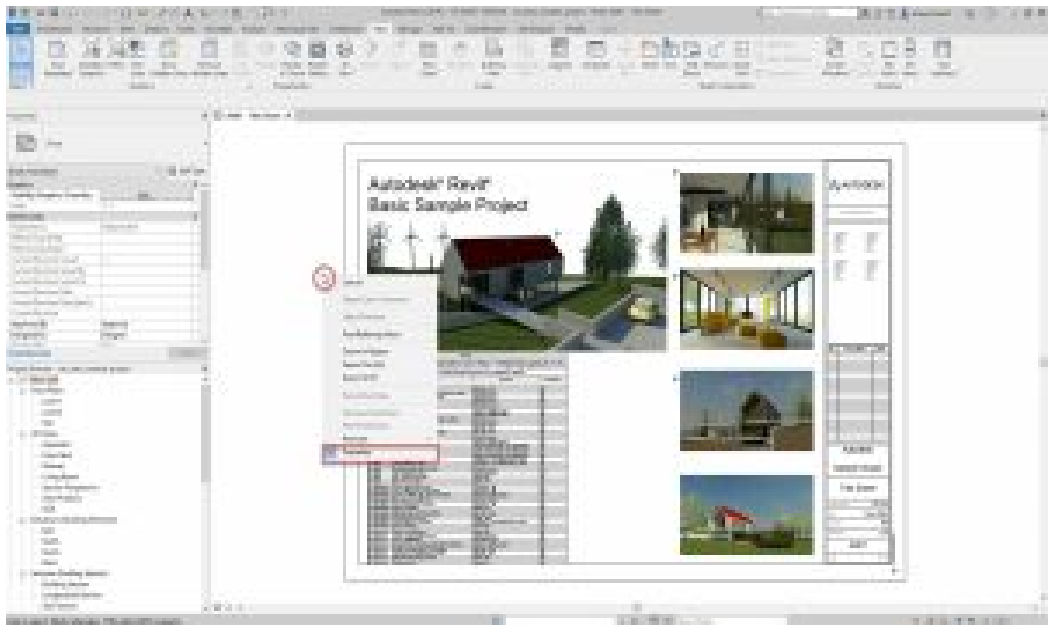

Figure 1.5 Accessing the Properties Palette
- Option 2: shown in Figure 1.5